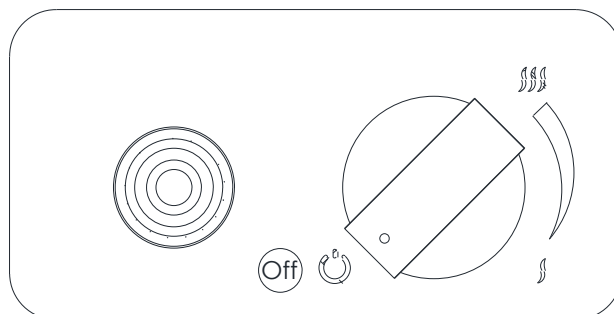

Fig 13 – Turning off the device
- To turn off the device, simultaneously press and turn the knob all the way clockwise (Fig 13). The gas supply will be cut and the flame on burner will be turned off.